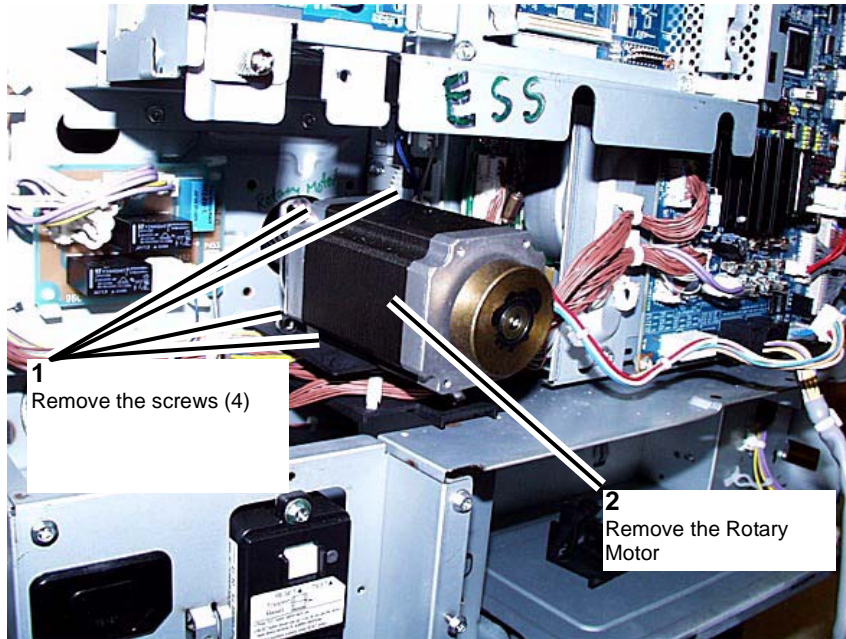

Figure 2 Removing the Rotary Motor
5. Remove the screws (4) and remove the Rotary Motor. (Figure 2)